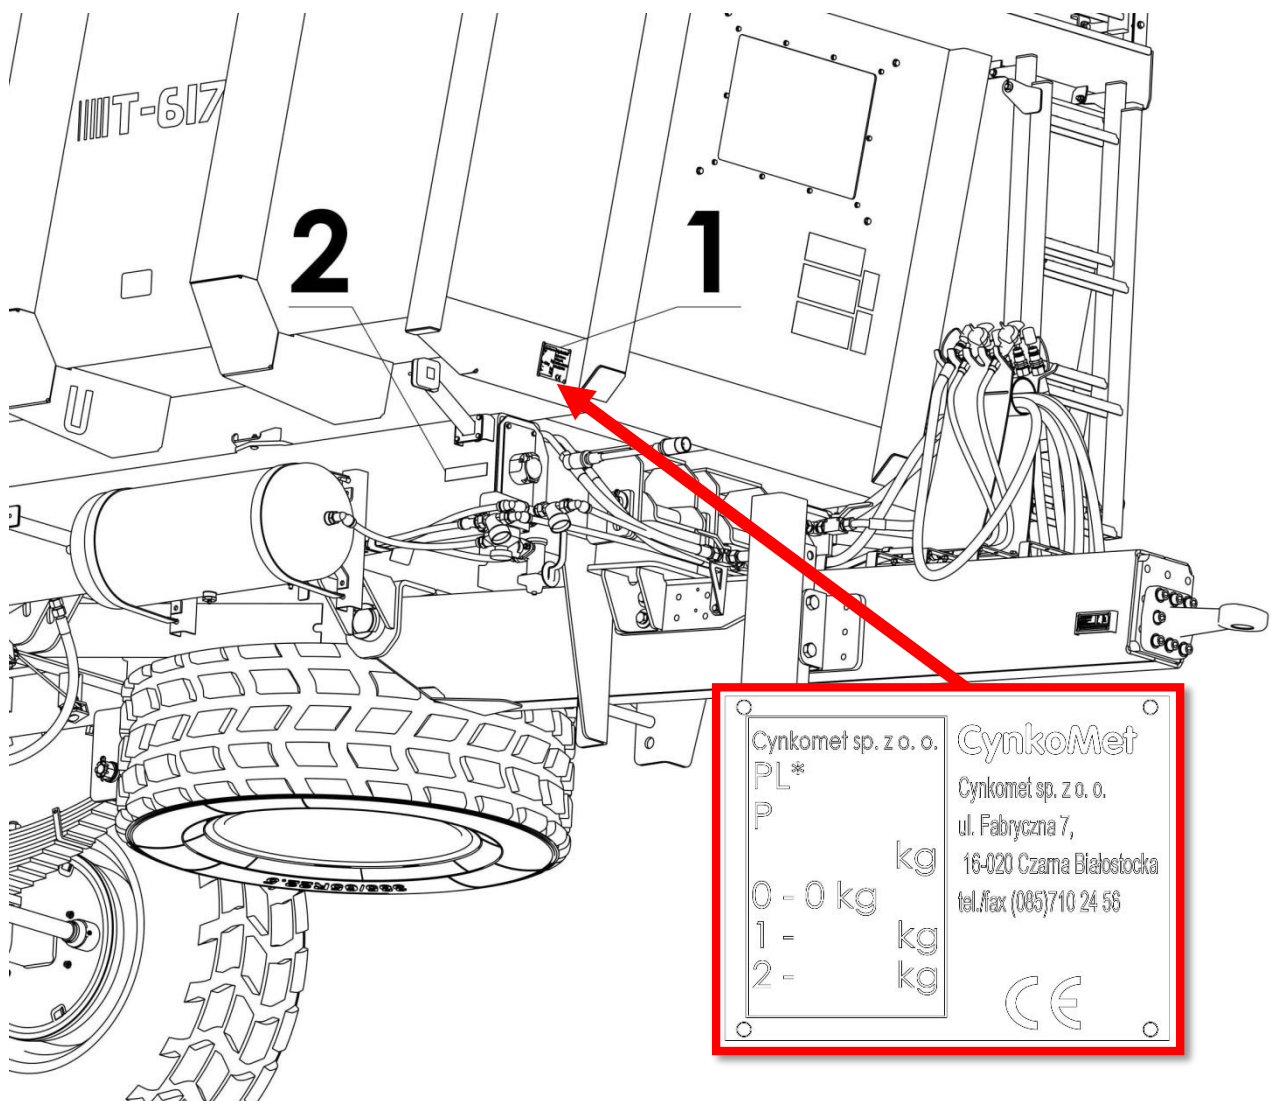

Figure 1. Location of the nameplate and issue of the serial number
The trailer is marked with the plate (1) and a serial number (2). The rating plate is found on the front beam of the upper frame, and the serial number is stamped on the right side-member of the lower frame – figure 1.